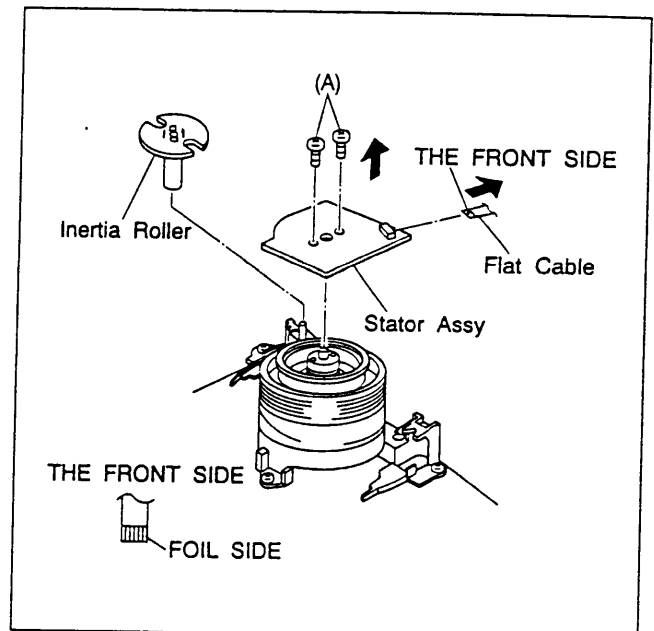

Fig. 2-5-22
- (3) Align the upper drum assy and rotor assy phase as indicated in Fig.2-5-22.